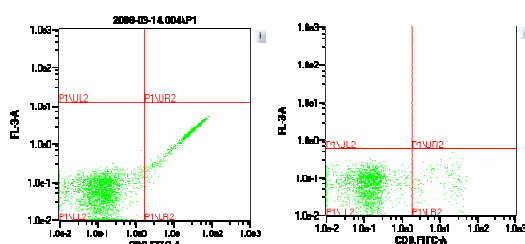

Figure 3.38 Cells stained with CD8-FITC were optimally compensated (right) for FITC detection in the FL3 channel
For example, FITC fluorescence will be detected in both the FL-2 (FITC) and FL-3 (PE) channels, though FL-2 is the designated channel for FITC detection. Therefore, all FITC fluorescence signal detected in FL-3 is regarded as excess or 'spillover'; this excess is calculated as a percentile, the value of which is mathematically 'subtracted' (compensated) from the original signal. This is best displayed by Figure 3.38 where cells labeled with a CD8-FITC antibody are measured in an FL-2 vs. FL-3 dot plot. The left panel shows an uncompensated detection of the cells, where CD8⁺ cells are detected in both the FITC channel (FL2) and the PE channel (FL3) and hence appear to be double-positive for FITC and PE fluorescence even though they have only been stained with a FITC-conjugated antibody. After compensation (right panel), the percentage overlap between the two channels has been removed, ensuring that FITC signal from CD8⁺ labeled cells are restricted to the x-axis (FITC).